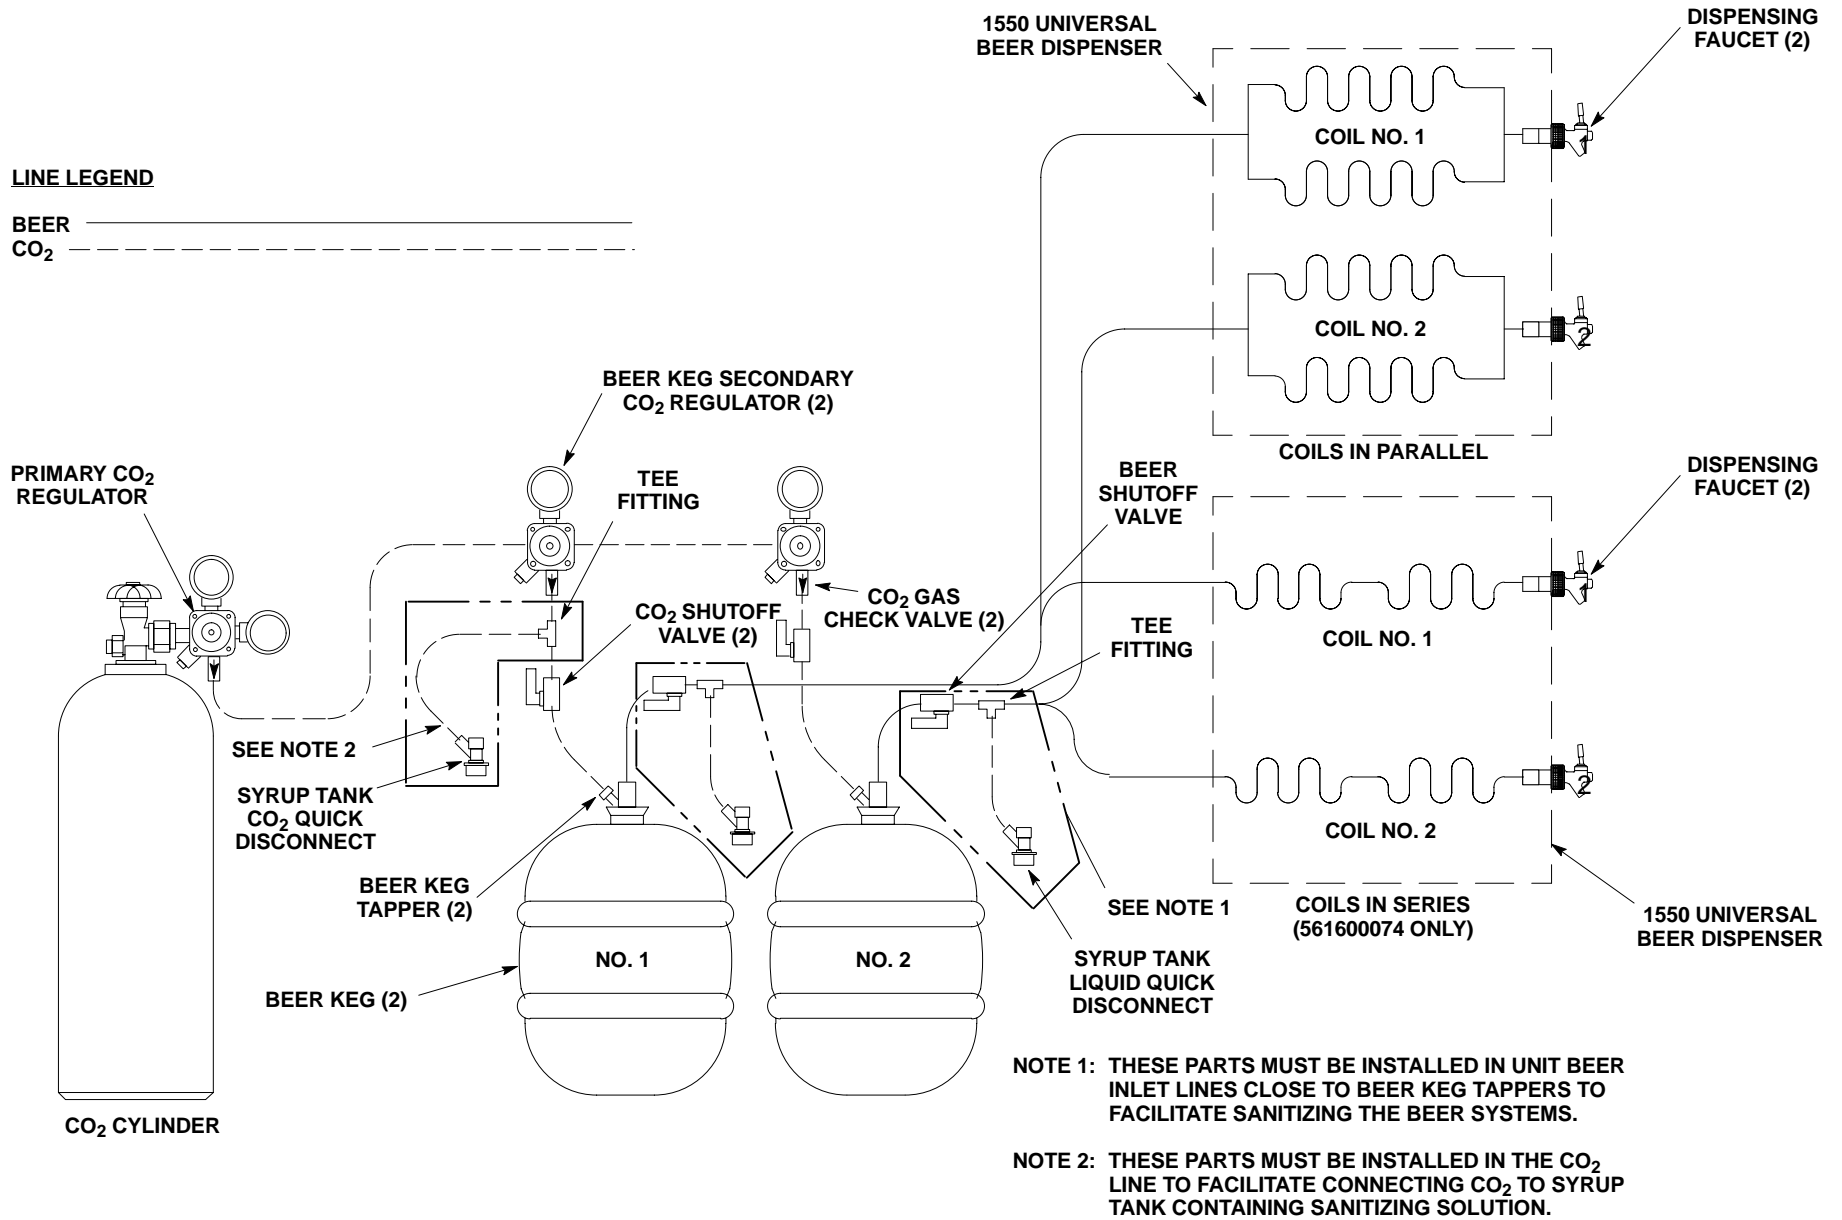

FIGURE 2. FLOW DIAGRAM
(see Figure 2)
Connect CO₂ system to beer keg tappers as shown in Figure 2. *DO NOT INSTALL BEER KEG TAPPERS IN BEER KEGS AT THIS TIME.*
1. All Unit beer inlet lines internal connections have been made at the factory. Connect Unit beer inlet lines to beer keg tappers as shown in Figure 2. *DO NOT INSTALL BEER KEG TAPPERS IN BEER KEGS AT THIS TIME.*
NOTE: A short length of tubing, with a syrup tank liquid quick disconnect on it's end (tubing, liquid quick disconnects, and tee fittings not provided), *must* be installed in the beer lines close to the beer keg tappers as shown in Figure 2). Purpose of the liquid quick disconnects is to enable a syrup tank containing sanitizing solution to be connected into the beer systems.
A length of tubing, with a syrup tank CO₂ quick disconnect on it's end (parts not provided), must be installed in one of the beer kegs tappers CO₂ source line as shown in Figure 2). Purpose of the CO₂ quick disconnect is to connect regulated CO₂ gas pressure to the syrup tank containing sanitizing solution.